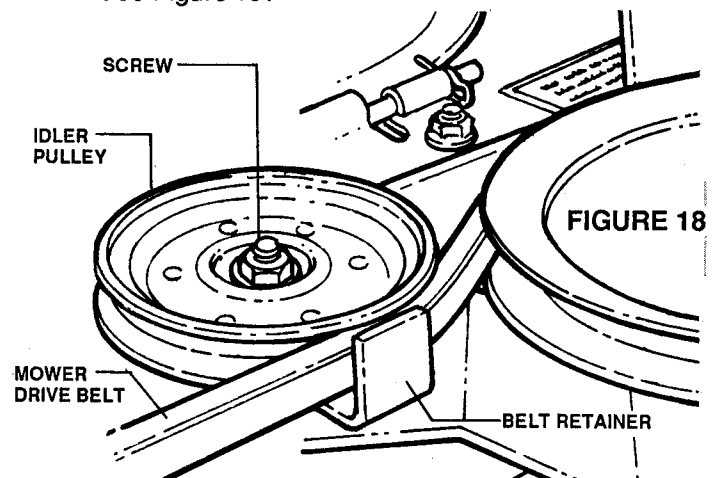

FIGURE 18
2. Loosen pulley screw on IDLER PULLEY until BELT RETAINER can be moved away from belt. See Figure 18.